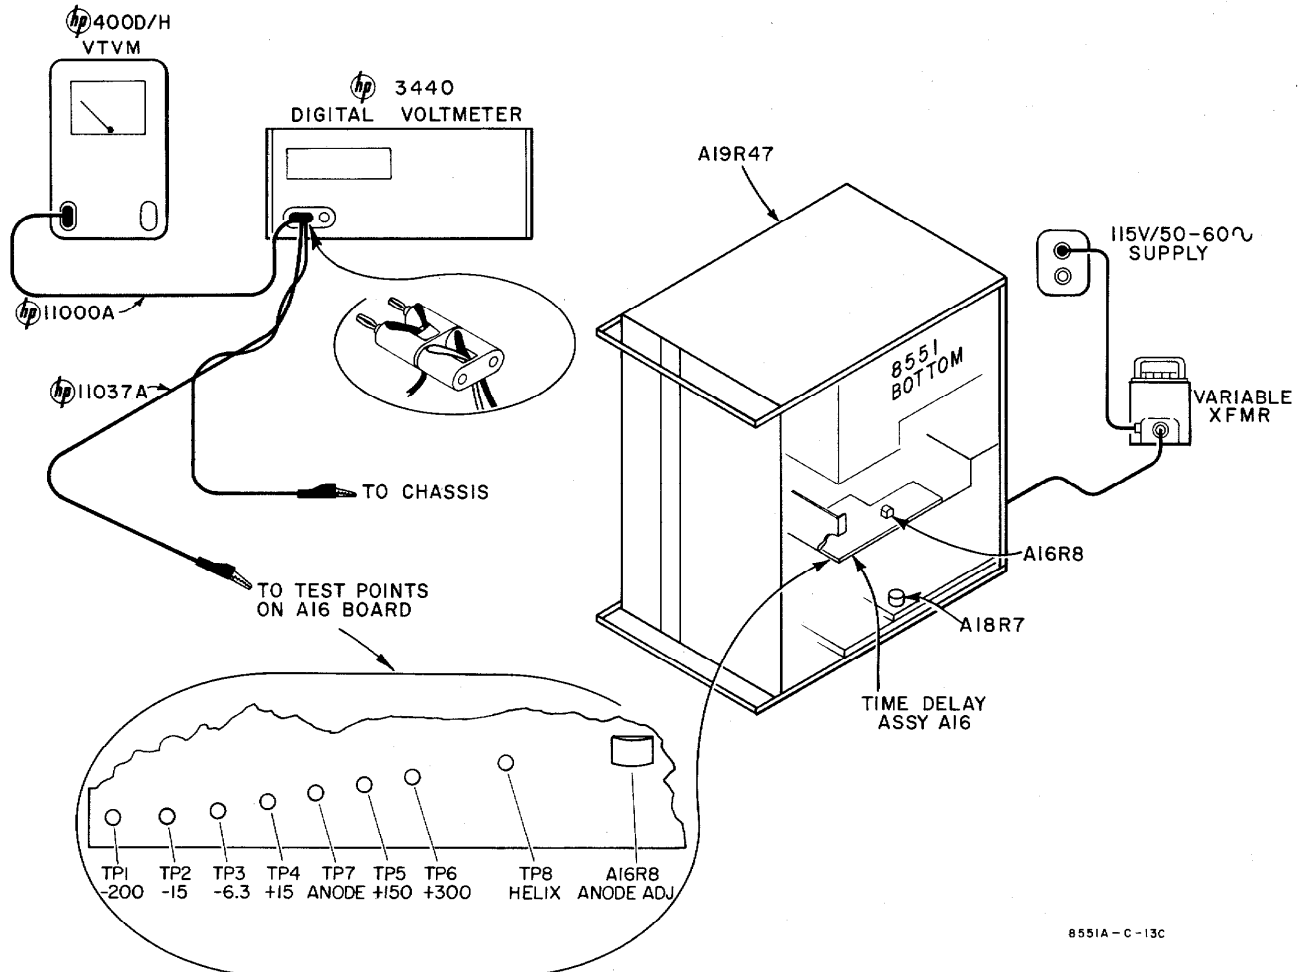

Figure 5-4. Measurement Setup, Low-Voltage Power Supplies
- a. Variable Transformer; item 3 in Table 5-1.
- b. DC Voltmeter (3440A); item 2 in Table 5-1.
- c. AC Voltmeter (400D/H); item 22 in Table 5-1.
- d. Clip-on DC Milliammeter (428B) item 4 in Table 5-1.
**5-54. SETUP (SEE FIGURE 5-4).**
c. Measure voltage from ANODE test point A16TP3 on HV TD Assy A16 (Figure 5-4) to ground, and adjust A16R8 for anode voltage stamped on BWO.